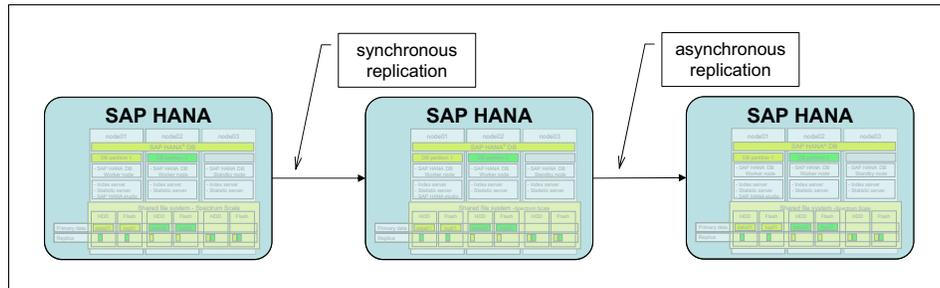

Figure 7-2 SAP HANA Multitier System Replication
*Multitier System Replication* was introduced with SAP HANA 1 SPS07, with which you can cascade replication over several databases. Multiple data centers, locally and geographically remote, can form a cluster to provide business continuity, dependent on the business requirements for RPO and RTO. An example is depicted in Figure 7-2.